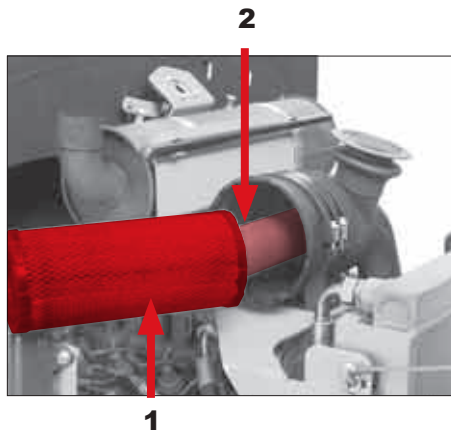

Fig. 83
Clean or replace the main filter element Item 1 (Fig. 83) during inspections or if the indicator light for the air filter on the instrument panel is illuminated between inspection intervals Item 12 (Fig. 13, page 50).
2. Remove the main filter element Item 1 (Fig. 83). Do not remove the safety filter element in the process.
Should it be apparent while servicing the dry air filter that a maintenance fault was present or that the main filter element is damaged, replace the safety filter element Item 2 (Fig. 83).
3. Pull out the main filter element Item 1 (Fig. 83).
4. Pull out the safety filter element Item 2 (Fig. 83).